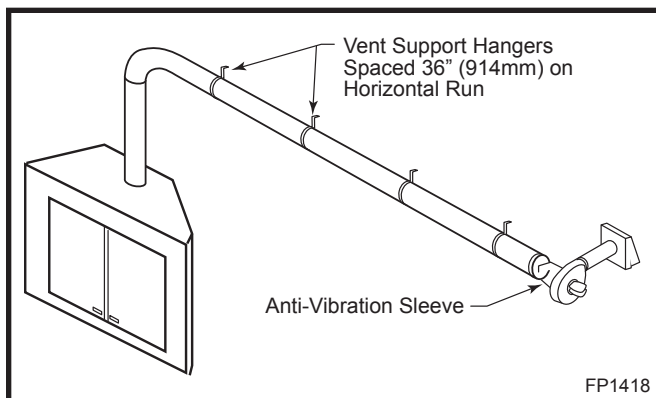

Fig. 2 It is best to install Power Venter as close to the termination as possible.
1. Although the Power Venter can be installed anywhere in the exhaust system, it is best if it is installed as close to the termination of the vent system as possible to obtain optimal appliance efficiency and to prevent flue gas leakage. (Fig. 2)